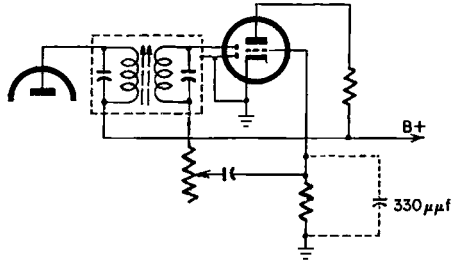

Fig. C-1. Code can often be eliminated by connecting a small capacitor in the grid circuit of the first audio stage.
**Service:** This condition can usually be cured by inserting a 330  $\mu\text{f}$  bypass capacitor between the triode grid of the detector-first-audio tube and ground. See Fig. C-1.